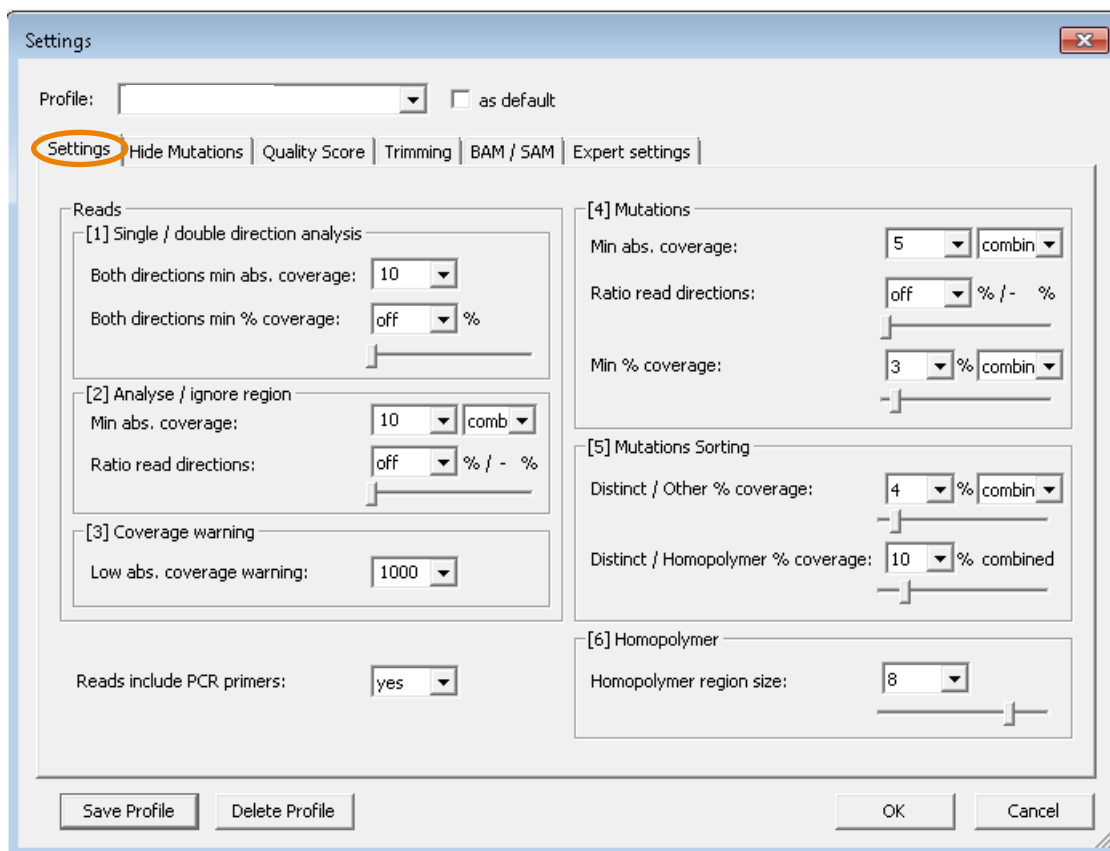

Figure 11. Example of general settings for variants at < 50% allele frequency
- To enable reliable somatic variant detection at < 50% allele frequency, the parameters 'Min. % coverage' at '[4] Mutations' and 'Distinct / % Other coverage' at '[5] Mutations Sorting' have to be modified as shown in Figure 11 of Section 15.3. The other settings remain as shown in Figures 6-10 of Section 15.2.